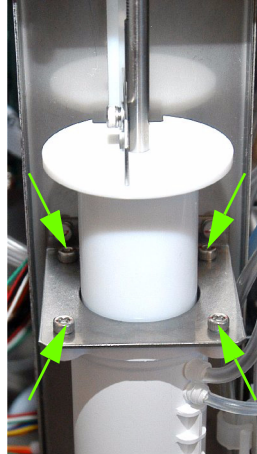

Fig.2: Syringe screws
- ◆ Unscrew the 4 screws from the top plate of the vacuum syringe (See “Fig.2: Syringe screws, page 3”).
- ◆ Install back the syringe body on the frame using the 4 screws (A).